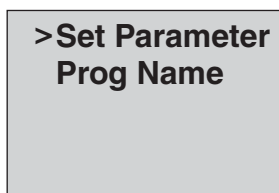

Fig. 3
3. Using the up/down arrow key **▲** or **▼**, move the (>) cursor to '**Program**' and press **OK** to confirm (See figure 3).